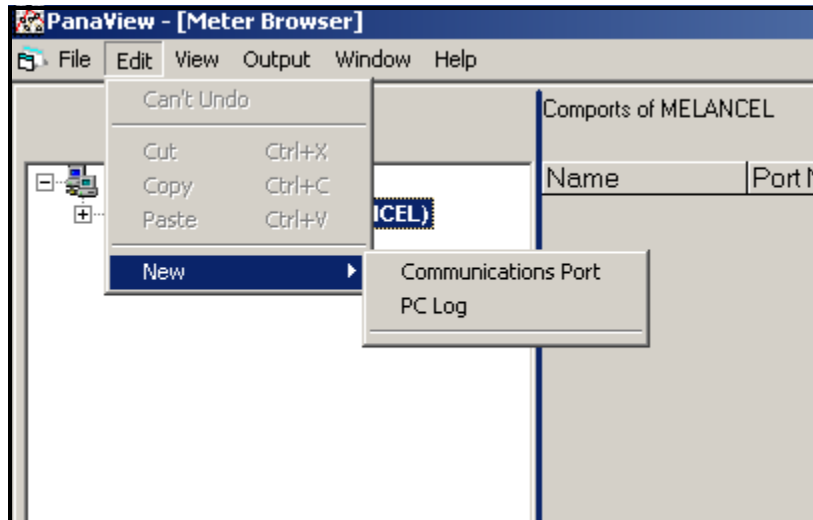

Figure 18: Edit Menu
3. Click on the “*New*” menu option to select it, and a submenu opens with two choices on it (see Figure 18 below).